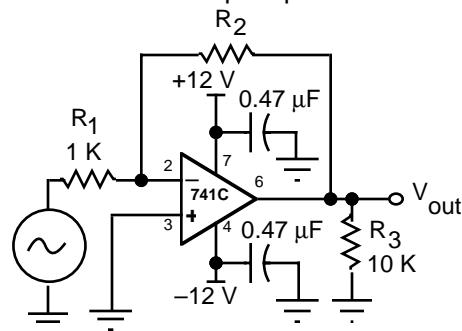

Fig 8.5
d) *Slew Rate.* Connect the circuit of Fig 8.5 choosing  $R_2$  between 100 kΩ and 1 MΩ. Measure the slew rate of the 741C and LF411 op amps.